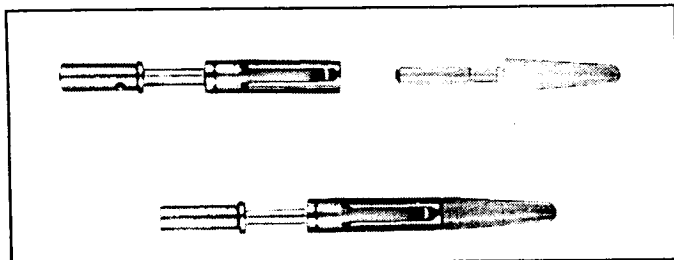

Figure 1
- a. Using Table IV, determine the appropriate tool for contact insertion. Pilot pins may be used to assist in the installation of socket contacts. See figure 1. Pilot pins are available and can be ordered with reference to the following part numbers: 10-242758-16 for size 16 socket contact pilot pins, 10-242758-12 for size 12 socket contact pilot pins and 10-242758-8 for size 8 socket contact pilot pins. To assist in contact insertion, isopropyl alcohol may be applied to the pilot pins or pin contacts.